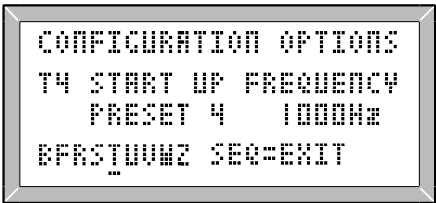

Fig. 1.4 LA101 Configuration Editor
The *configuration menu* is obtained on either unit by holding **[ON/OFF]** and pressing **[2]** (Figs 1.4 & 1.5). It offers the possibility of changing many configuration parameters such as printer baud rate, printer type, print format, and default impedance. The full list is shown in table 1.6. Each configuration is given a letter (A-Z) and may be set to one of several options, each represented by a number. For example, configuration P1 indicates that the printer configuration (P) is set to Epson (1), while configuration P8 will indicate that the LA102 is configured for a HP Deskjet printer. Similarly, configuration V will determine the default loudspeaker volume in the range 0 (off) to 15 (maximum volume). The configurations in the LA101 and LA102 are completely independent although similar functions have been given the same letter wherever possible.
When the configuration options are displayed (figs. 1.4 & 1.5) the left hand pair of keys in the centre row can be used to cycle through the various configurations, and the right hand pair will change the option number (these keys repeat if held). The various options are displayed when selected. Keys **[1]** to **[5]**, and **[*][1]** to **[*][5]** (representing 6 to 10) can also be used to set the various options and **[L/R]** will restore the **L**indos/**R**ecommended default option. Exit the menu by resetting or pressing **[SEQ]**. The current LA102 configuration settings can be printed by pressing **[*][PRINT]** when the configuration menu is displayed (see sections 8.1 & 8.2).